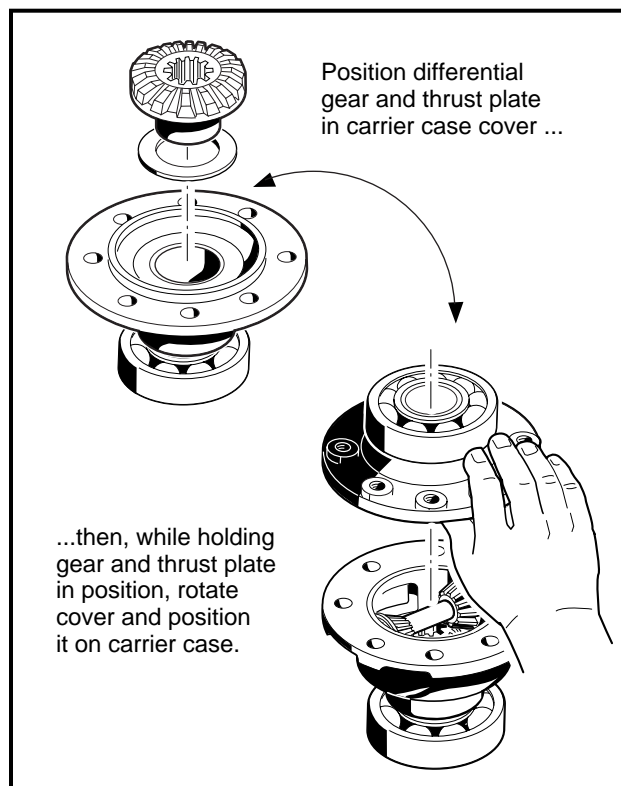

Figure 16-64 Carrier Case
5. Install the thrust plate (86) and differential gear (90) into the carrier case cover (87) (**Figure 16-5, Page 16-4**) as shown (**Figure 16-64, Page 16-27**). Then, while holding the thrust plate and differential gear in place, position the carrier case cover on the carrier case (**Figure 16-64, Page 16-27**).